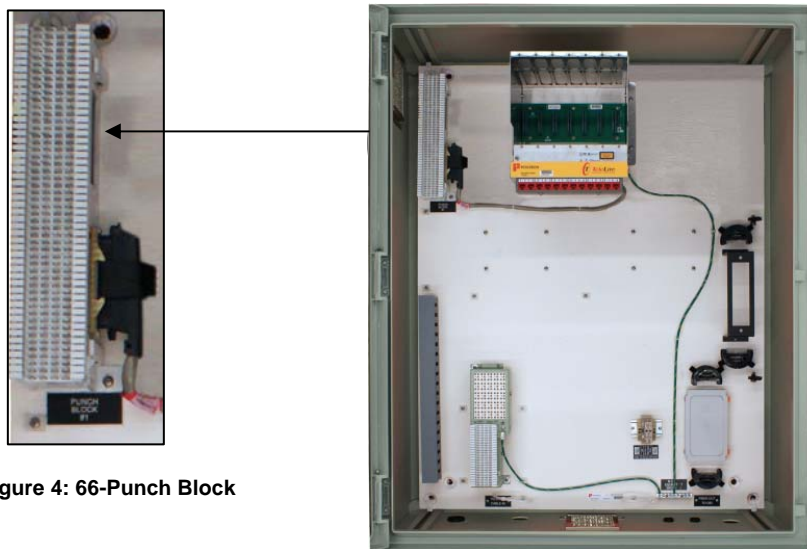

Figure 4: 66-Punch Block
- 1.5.6** Add bridging clips onto 66-block to connect input from the network to the CPE side of the 66-block. See Figure 4. The CPE (output) side of the 66-block feeds the TeleLite RJ Break-out array (Model #7250BB-50) affixed to the bottom-front of the TeleLite 6-slot shelf (Model #720000) via the Amphenol connector on the drop-side of the 66-block and associated cable.